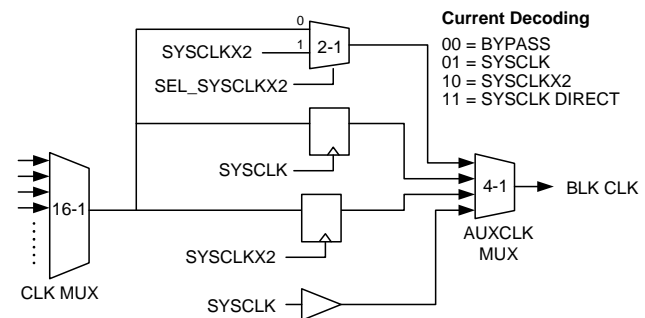

Figure 17-2. Input Clock Resynchronization
**Note** If the input clock frequency matches the frequency of the clock used for synchronization, the block will never receive a clock (see Figure 17-2). With respect to SYSCLK, this can happen in the following cases:
The clock resynchronizer is illustrated in Figure 17-2.